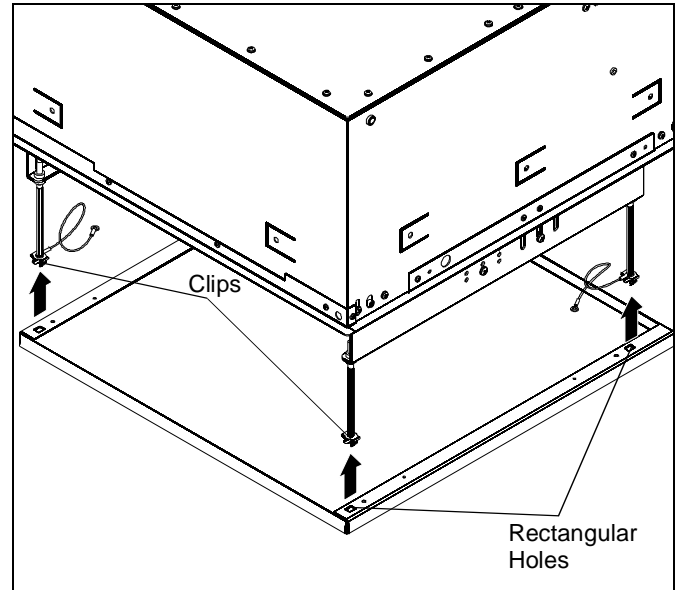

Figure 13
1. Line up rectangular holes in ceiling pan with clips on ends of rods, and re-attach the ceiling pan. (See Figure 13)